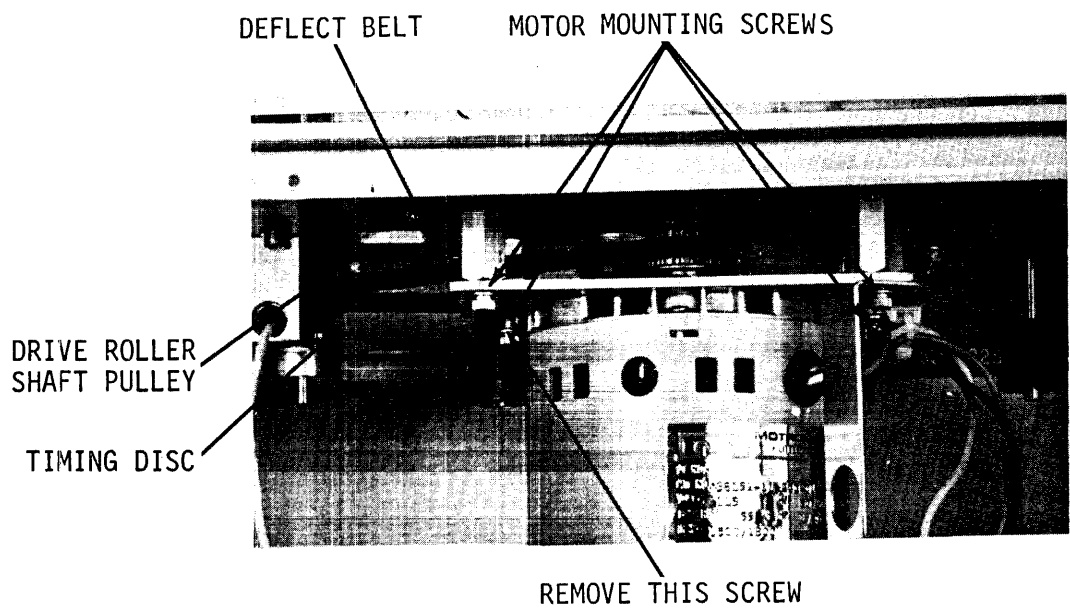

Figure 9-3. Main Drive Motor Mounting
- c. Using a 9/64 Allen wrench, LOOSEN three 8 x 32 socket head motor mounting plate screws (bottom of mainframe). REMOVE The fourth motor mounting plate screw, figure 9-3.